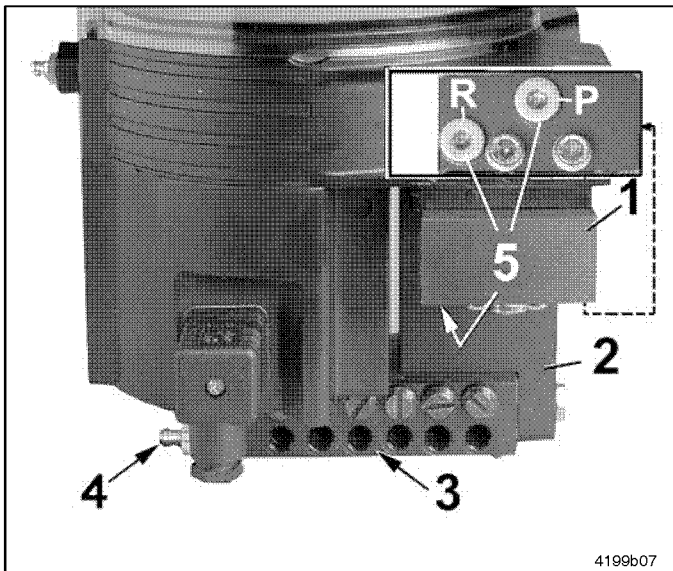

Fig. 6-2 QLS 301 with bottom position of the SSV divider block
- SSV metering device mounted on the bottom (see fig. 6-2)